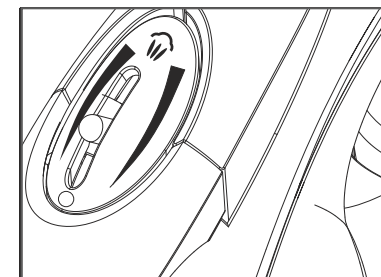

Fig.2
- Set the steam control knob to "0" position as shown in figure 2.